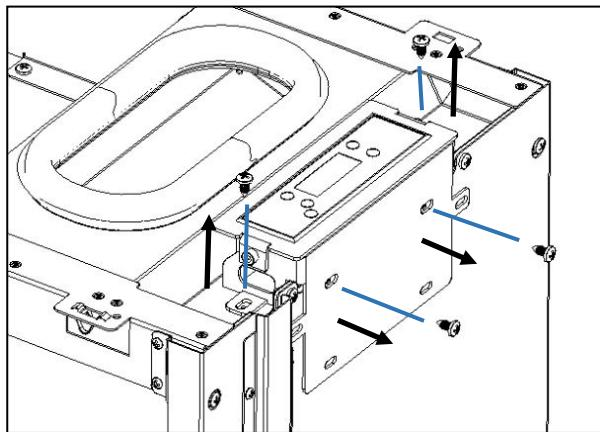

Figure 48 - Removing the display on the machine
- a) Before beginning with the assembly of the casings you must remove the display stand from the equipment by loosening the four screws shown in Figure 48.